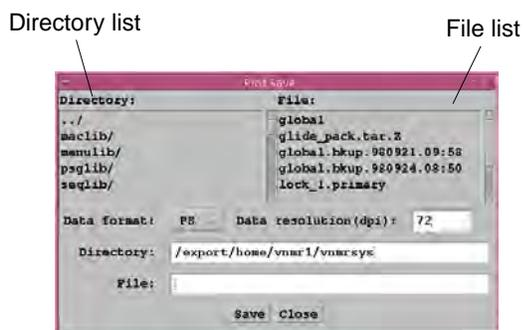

Figure 83. Plot Save Window
1. When you are satisfied with the plot that you have created, click on **File** in the main menu, then **Save Data** to open the Plot Save window shown in Figure 83.